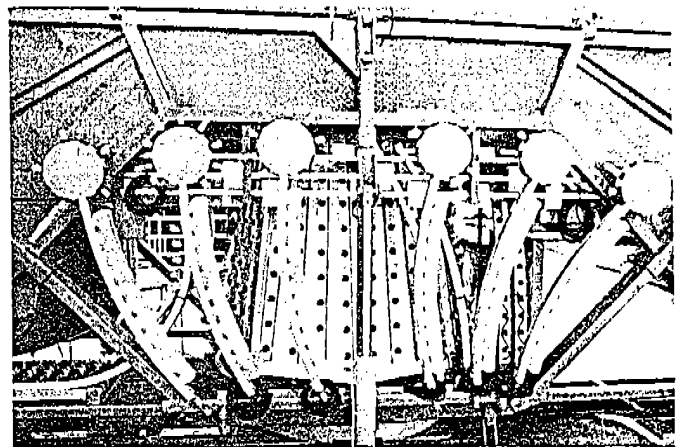

Fig. 72
- b. Position the banjo lights to arch toward the back of the ride. (Fig. 72)